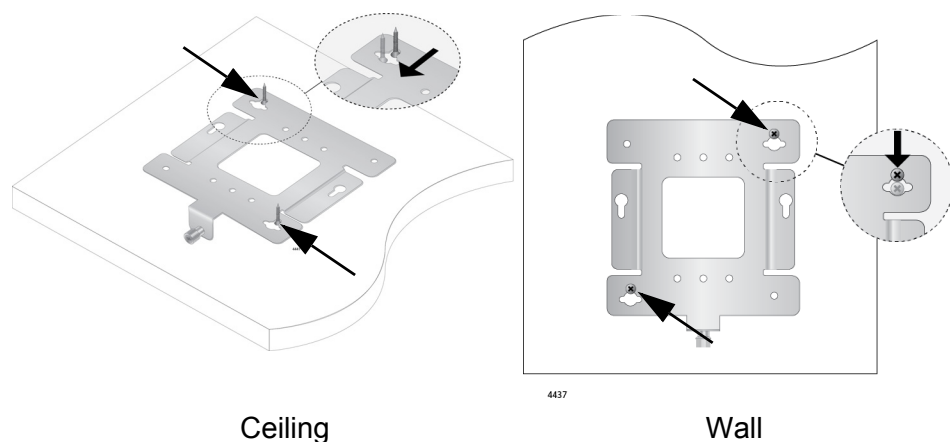

Figure 9. Mount Bracket On Screws Using Key-Hole Slots
4. Insert the openings of the bracket key-hole slots under the two screw heads and slide the bracket into narrow end of the key-hole slot opening. Refer to arrows in Figure 9. Tighten the screws snugly onto the bracket.